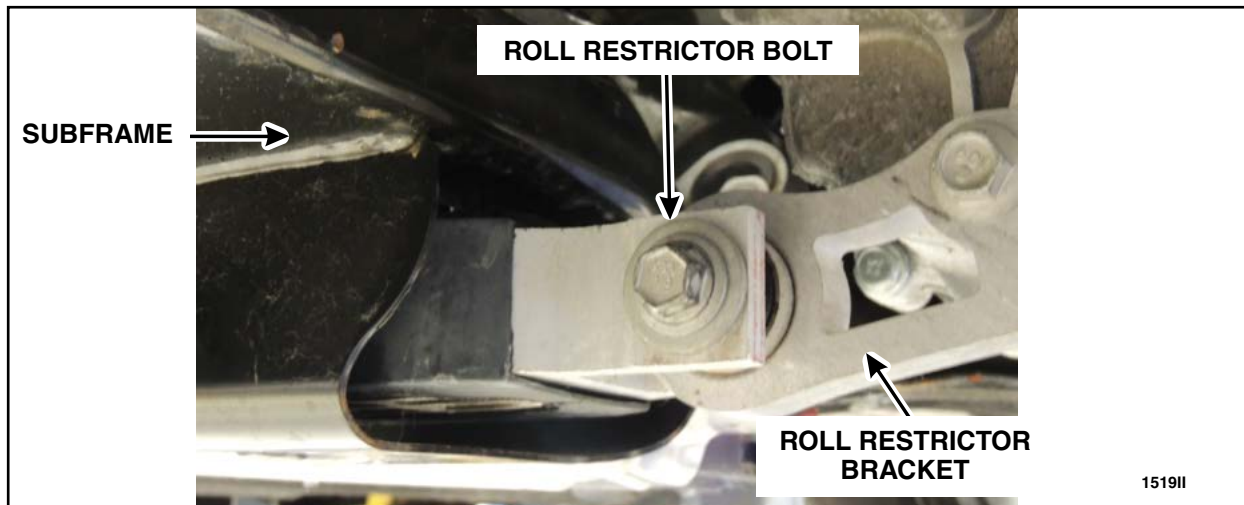

FIGURE 5
2. Remove the right hand (RH) roll restrictor bolt. See Figure 5.
- Install the RH roll restrictor bolt. See Figure 5.
2. Discard the old RH roll restrictor bolt. Install a *NEW* RH roll restrictor bolt. See Figure 5.